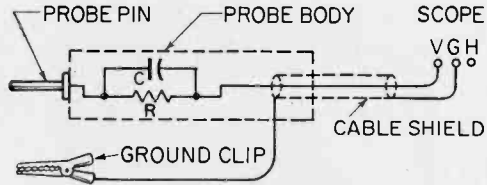

Fig. 18. Probes reduce circuit loading.
**Trouble-shooting.** Now that we have learned the basics of using a scope, we can use it as a signal tracer. We need a low-capacity probe which can usually be purchased at most radio parts stores. The schematic of a low frequency probe is shown in Fig. 18. The lead to the vertical input ter-